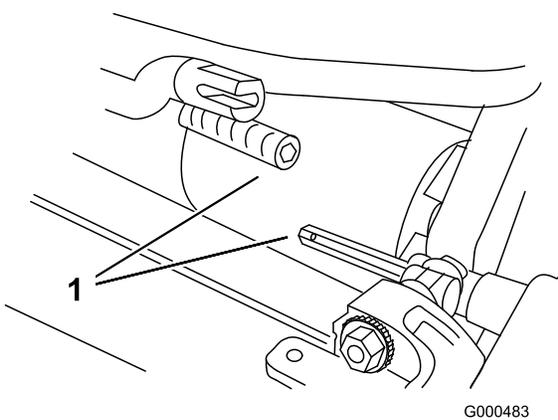

Figure 5
3. Push the cutting unit under the traction unit and then to the left to engage the transmission coupling (Figure 5).